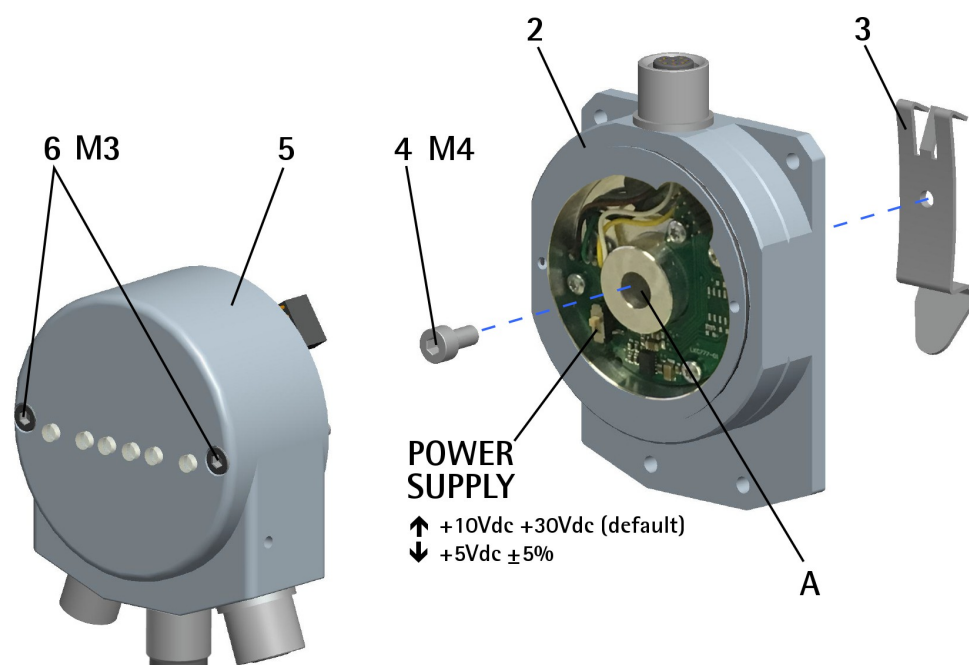

Figure 3 - Installation with DIN rail clip
3.3 Installation with DIN rail clip (Figure 3)